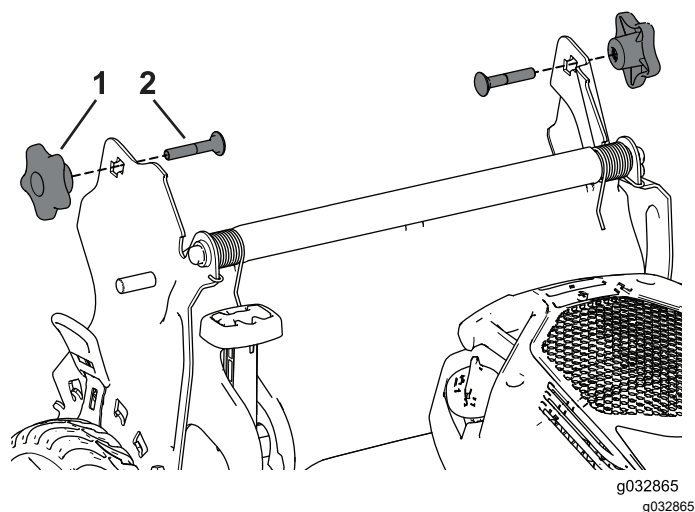

Figure 24
4. Insert the carriage bolt (with the bolt head toward the inside) through the handle bracket and the upper hole in the handle end. Ensure that the square edges of each carriage bolt fits into the upper or lower square hole in its related handle bracket (Figure 24).